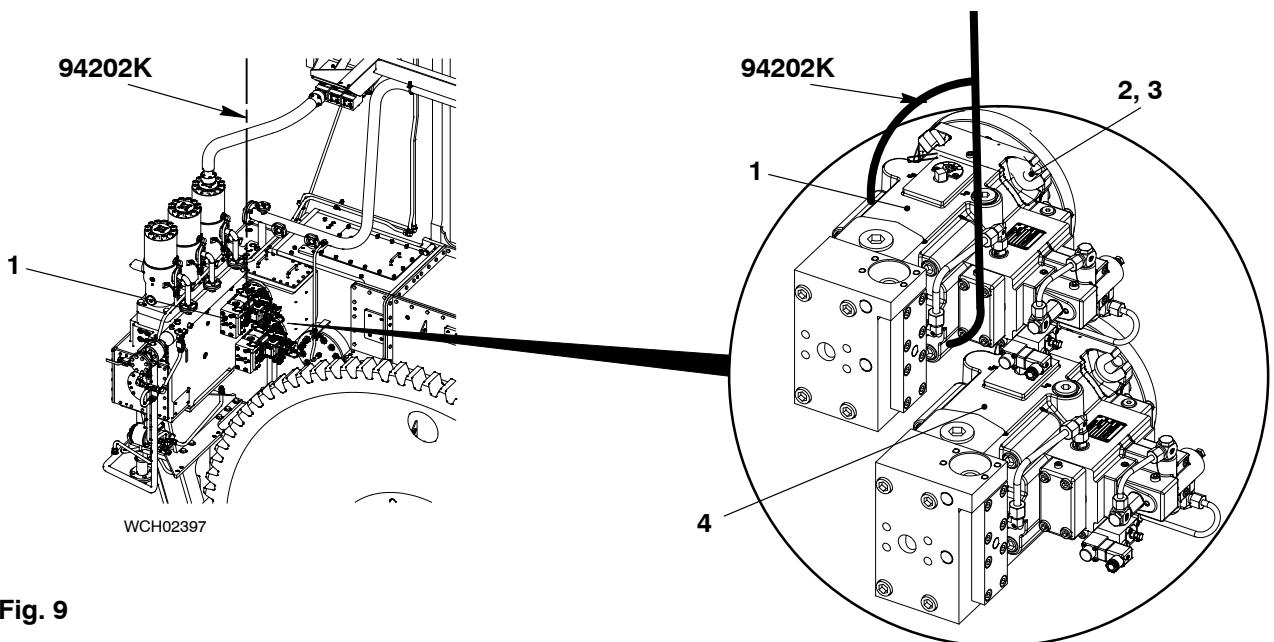

Fig. 9
- 3) Put the sling (94202K, Fig 9) around the servo oil pump (1) two times.
- 5) Use the engine room crane to put the servo oil pump (4) in position.
- 6) Attach the servo oil pump (4) to the casing with the four washers (3) and nuts(2).